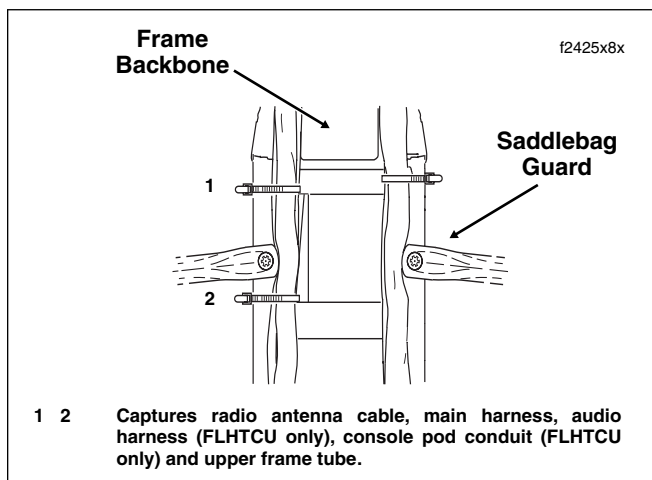

Figure 8-183. Capture Radio Antenna Cable
- Loosely install two **new** cable straps to secure radio antenna cable to left upper frame tube. See Figure 8-183. Loosely install **new** cable strap to secure radio antenna cable to luggage rack rail.
5. Loosely install two **new** cable straps to secure radio antenna cable to left upper frame tube. See Figure 8-183.